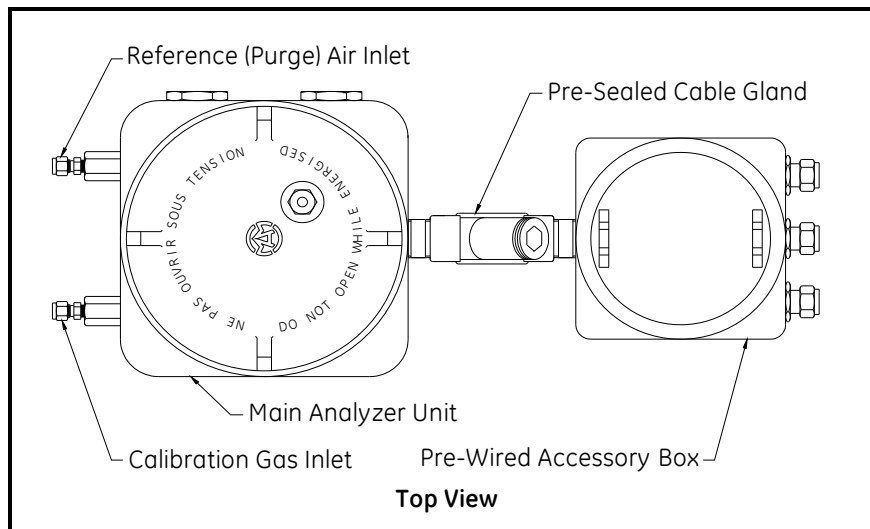

Figure 16: Explosion-Proof (Flameproof) Enclosure
- An explosion-proof (flameproof) analyzer requires a constant reference air flow. Connect a 50 cc/min atmospheric air line (20.9% oxygen) to the purge connection (see Figure 16).